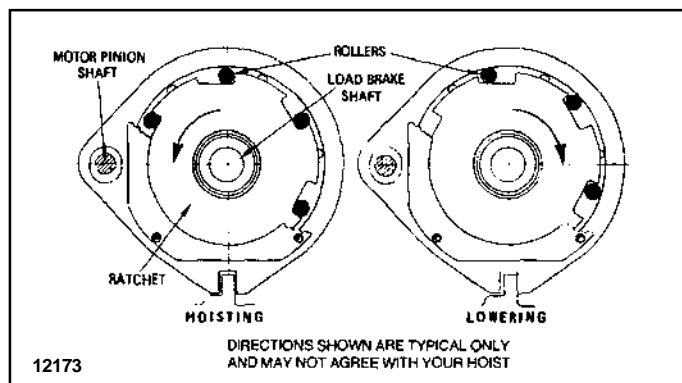

Figure 8-6. Illustration of Roller-Ratchet Brake
**c. Operation.** Figure 8-6 shows the action of the roller-ratchet load brake in both hoisting and lowering. The slots cut into the ratchet are sloped in a manner which forms a clearance between the rollers and the retaining plate (outer race) when the ratchet is rotated in the hoisting direction. However, when rotating the ratchet in the lowering direction, the slot slopes so as to force the roller into a wedged position. This action stops the ratchet from further rotation.